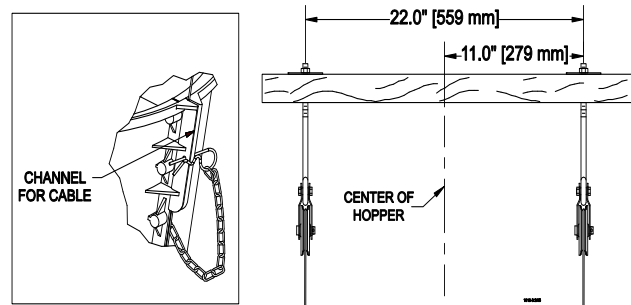

Figure 20.
8. Install two pulleys to either a 2" x 8" [50x200 mm] board that will span at least 3 rafters or a 3/8" [9.5 mm] thick steel plate welded to two pieces of angle iron that are long enough to span at least 2 rafters. Install the pulleys directly above the feeder line where the hopper is to be located. The pulleys should be spaced 22" [559mm] apart (11" [279 mm] from the center of the hopper in both directions), see figure 20.